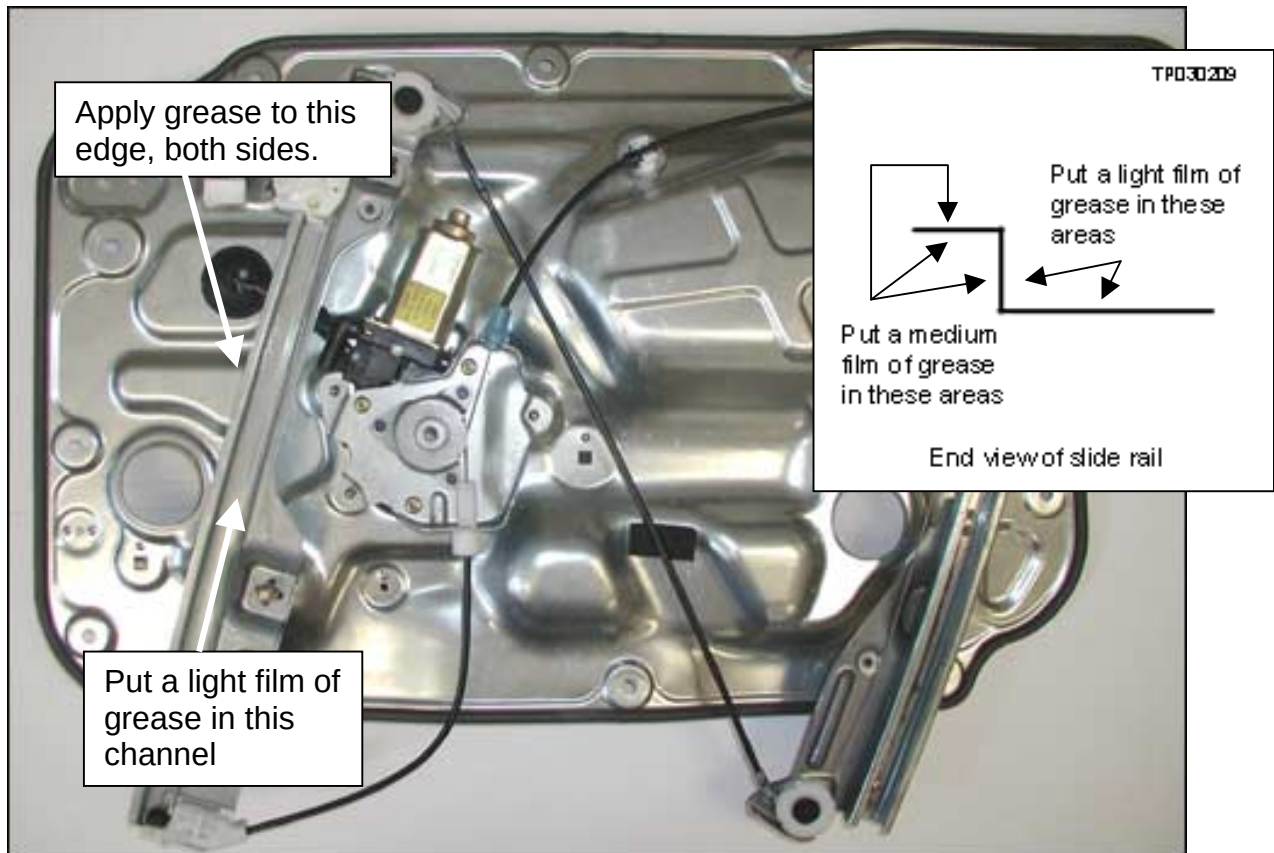

Figure 4
3. Apply Genuine Nissan Window Regulator Grease (see Parts Information) to the front window regulator slide rail after the old grease has been cleaned/wiped off. (see Figure 4 and 5).